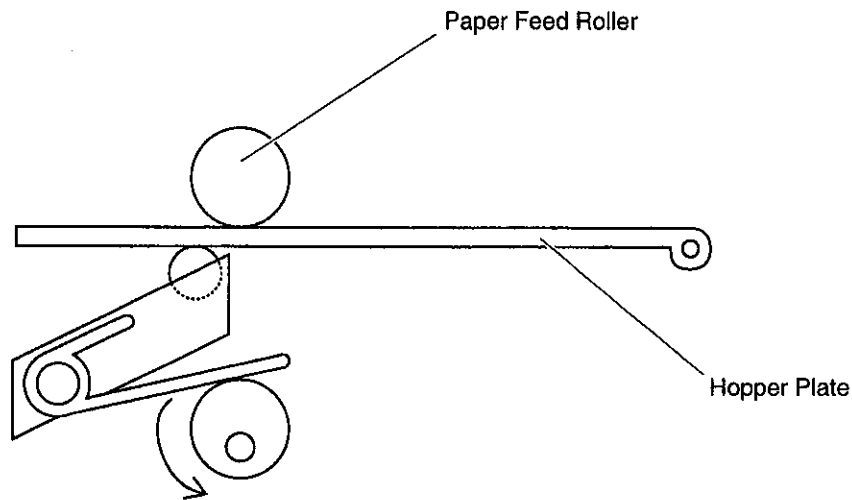

Fig. 6-6
- (5) When the Hopper cam rotates in the direction of arrow as shown in Fig. 6-6, it pushes up Hopper spring, and enables to paper feeding by attaching Hopper Plate to Paper Feed Roller.